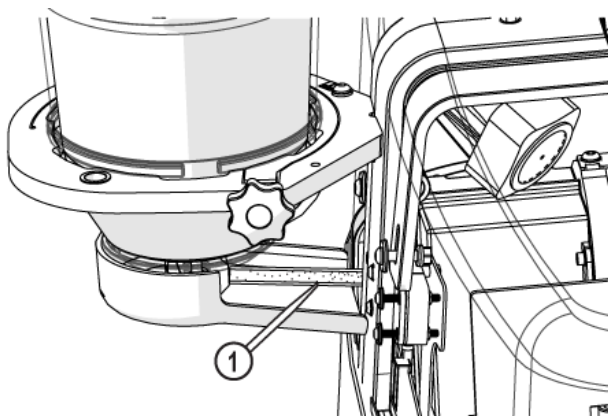

Figure 41
11. Observe the **garnet abrasive tube** [1] at the **hopper** to verify the garnet abrasive is flowing, then click Close when the test is complete (Figure 41).